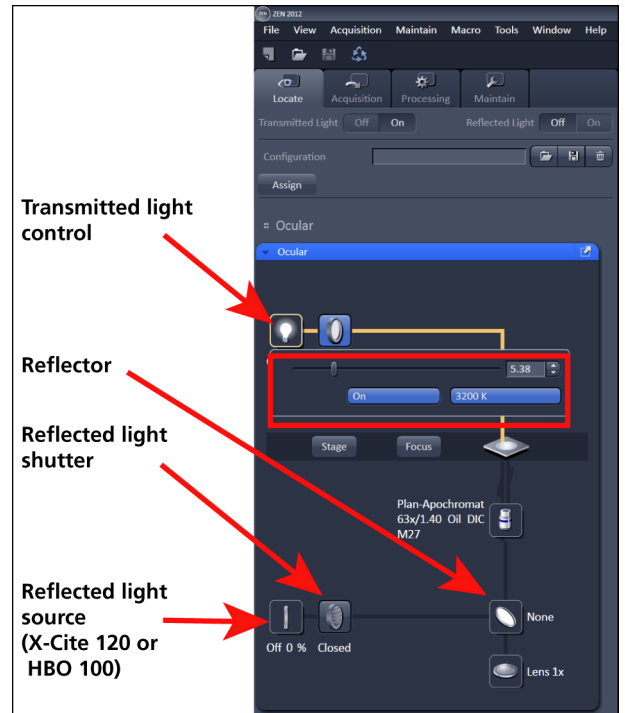

Fig. 13 Microscope Control window with Transmitted Light pop-up menu
- Open the graphical pop-up menu by clicking on the **Transmitted Light** icon (Fig. 13).